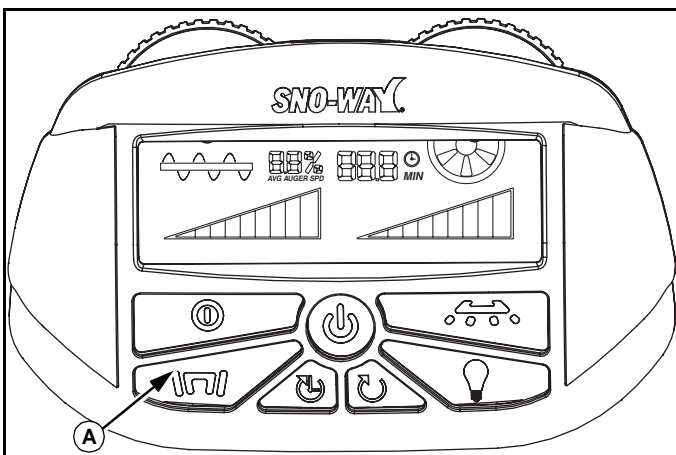

Figure 1-12
To operate the vibrator, have the control in Run Mode, press the Vibrator Button (A), then the button light will change from white to green. The vibrator will not operate if the unit is in Pause Mode. If the vibrator is not in Auto Mode, the vibrator will turn off when the control is paused and remain off until the button is pressed again during Run Mode. If the vibrator is in Auto Mode and the control is running, the vibrator can be turned off by pressing the button. The button light will turn white when turned off and green again if the button is pressed. (See Figure 1-12.)